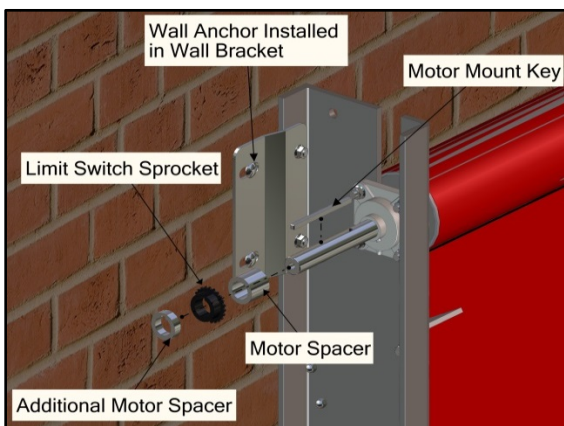

Figure 14
16. Install the key into the slot of the shaft. Make sure the key is flush with the end of the shaft. (See Figure 14 & 15)